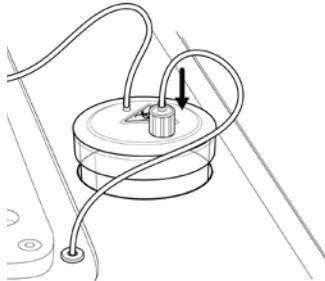

Fig. 31. Connect the vacuum tubing to the top of the waste jar.
16. Connect the Genesis vacuum tubing to the top of the waste jar (Figure 31).